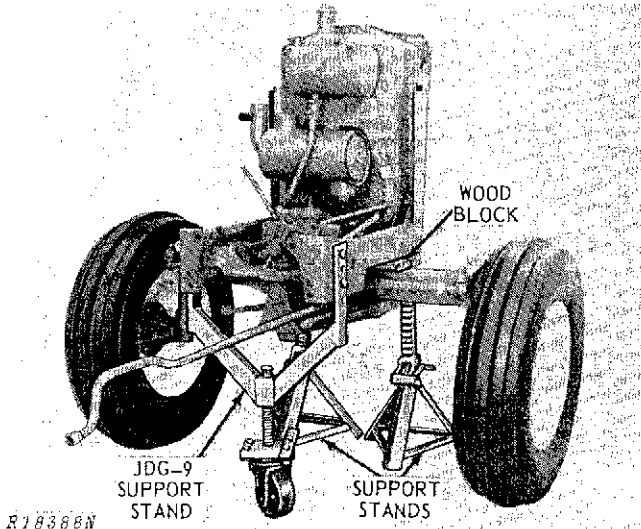

Fig. 9-Tractor Front End Separated From Engine
**CAUTION:** Place support stands under front and rear of tractor front end (Fig. 9), to prevent tipping forward or backward. Install a wood block between front support and axle on both sides of tractor to prevent tipping sideways.
Carefully separate tractor front end by rolling rear section away from front end (Fig. 9). Place a metal stand under clutch housing. Install caplugs.